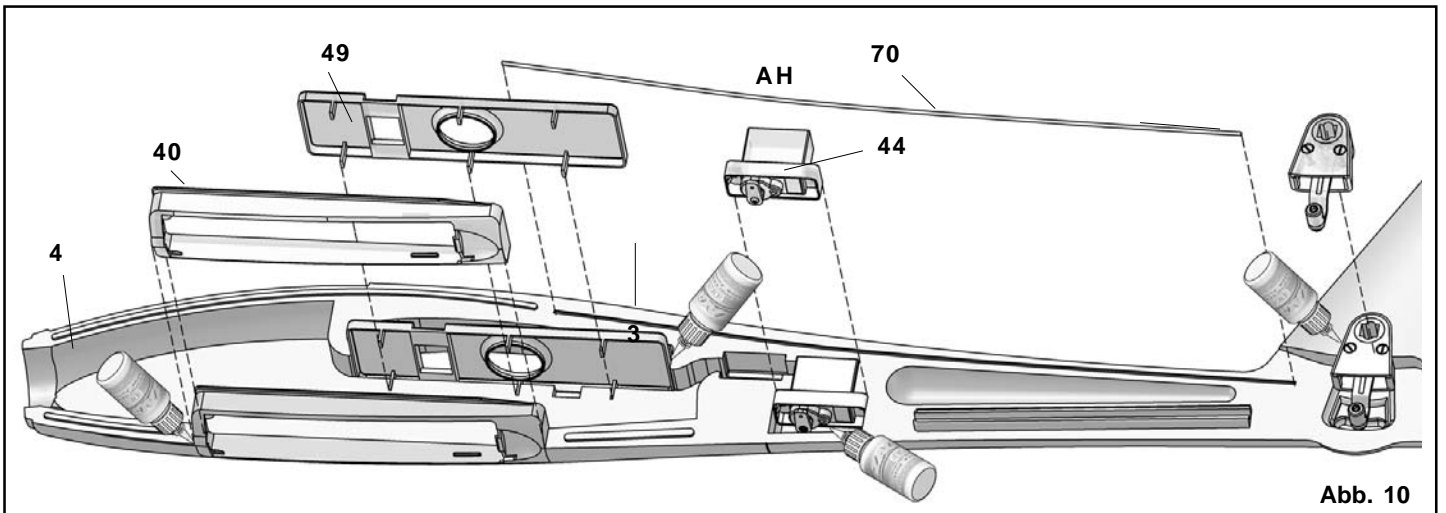

Abb. 10
3.2 Completing the “inside” of the right-hand fuselage shell, Fig. 10